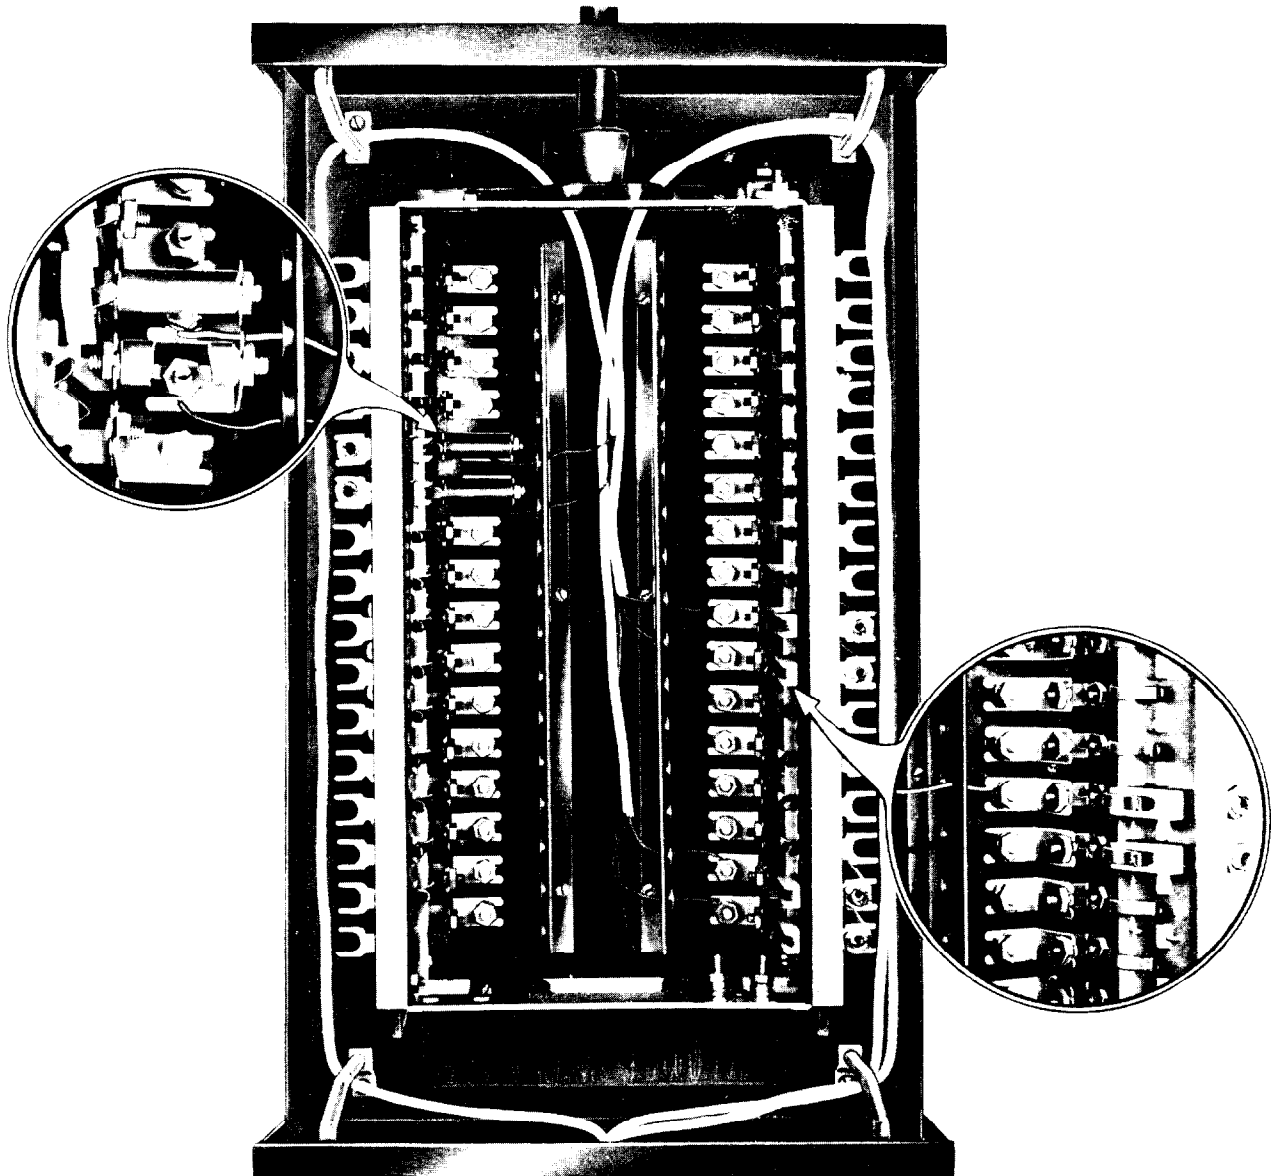

Fig. 11 -Typical Station Wiring of LC-type Terminal
8.03 The LC-type terminal is equipped with an LX-type fuse chamber. No space is provided for binding post chamber or connecting block within the terminal. Station wires may be terminated on the binding posts of the fuse chamber shown in Fig. 11. Place 60-type fuses as specified in the section entitled Protection and Fusing of PBX Trunks, Tie Trunks, Ringing and Battery Feeders, and Off-premises Extensions
8.05 The 2-piece clip for mounting the 60-type fuse on the front of LA- and LB-type fuse chambers is joined by a P-290225 connector as shown on the right in Fig. 11 and 12. When a
60-type fuse is used, the connector is removed and stored in the bottom of side panel. The portion of the clip which is toward the center of the chamber should be removed from the binding post and re-installed to form a mounting for the fuse as shown on the left in Fig. 11 and 12.